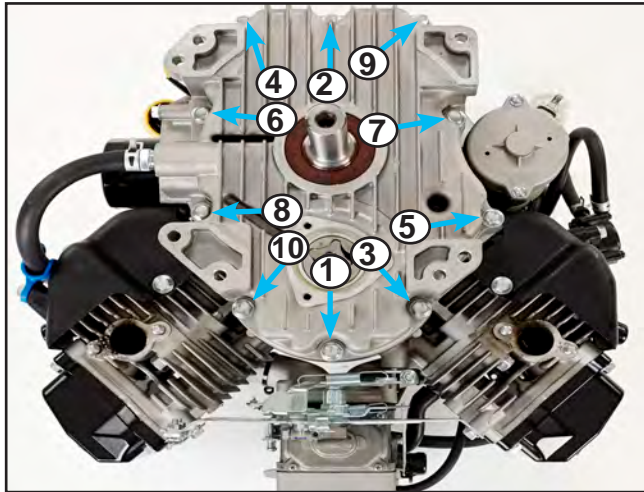

Figure 16
4. Install the bolts loosely. Torque in two passes, follow the torque sequence below (Figure 16):